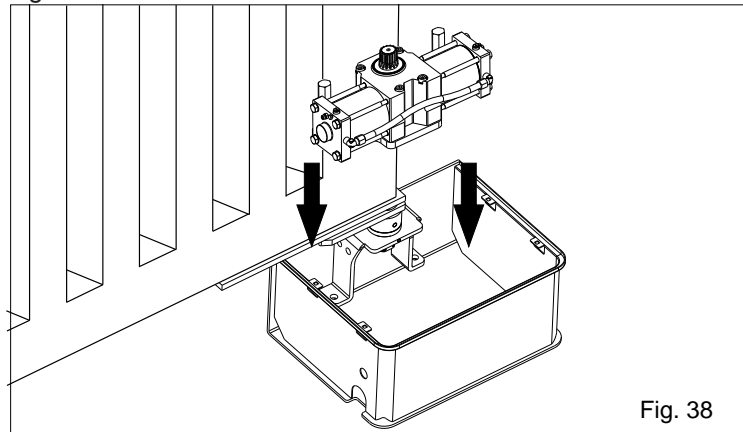
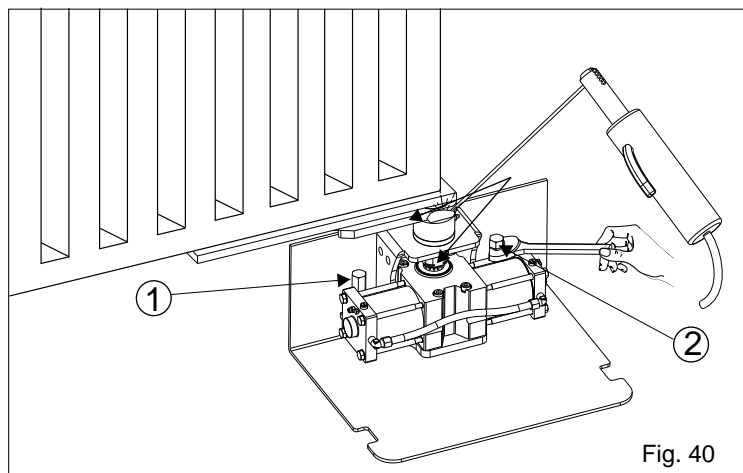

Fig. 38
Fig. 40
12.1. Insert manually the operator into the carrying box (Fig. 38) also insert the splined shaft of the operator into the splined bush of the box and fix the operator with the special screws as in Fig.40.